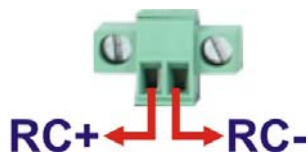

Figure 3-12: Remote Control Terminal Block Pinout Location
- CN Pinouts:** See Table 3-7 and Figure 3-12